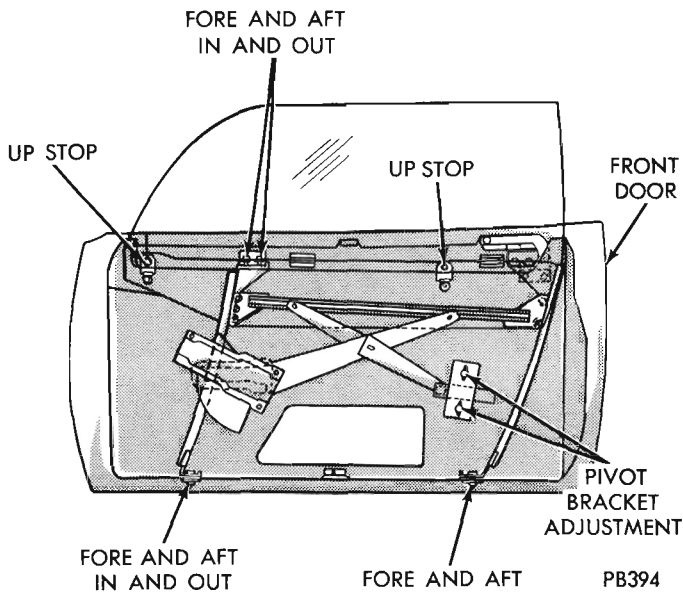

Fig. 1 - Hardtop Front Door Glass Adjustments
**Adjustments - Ventless Door (Fig. 1)**
- (1) Raise glass completely.
- (2) Move glass fore or aft to set glass to belt line weatherstrip.
- (3) Tighten glass track upper bracket at belt line.
- (4) Move pivot bracket up or down and set glass parallel to weatherstrip.
- (5) Tighten pivot bracket.
- (6) Adjust up-stops.
- (7) Move bottom of front track to create an effective glass to weatherstrip secondary seal.